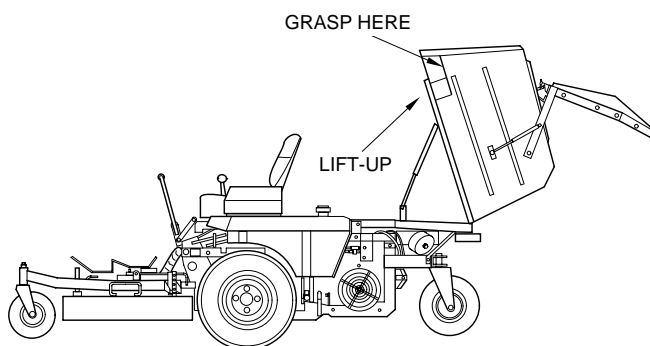

Figure 4-12 Raising The Hopper
- C. Stand off to side of the hopper. Raise the hopper by placing a hand in the hand hole at either bottom front side of the hopper (Figure 4-12) and then carefully lift the hopper until it is in its upright position and the hopper is emptied.